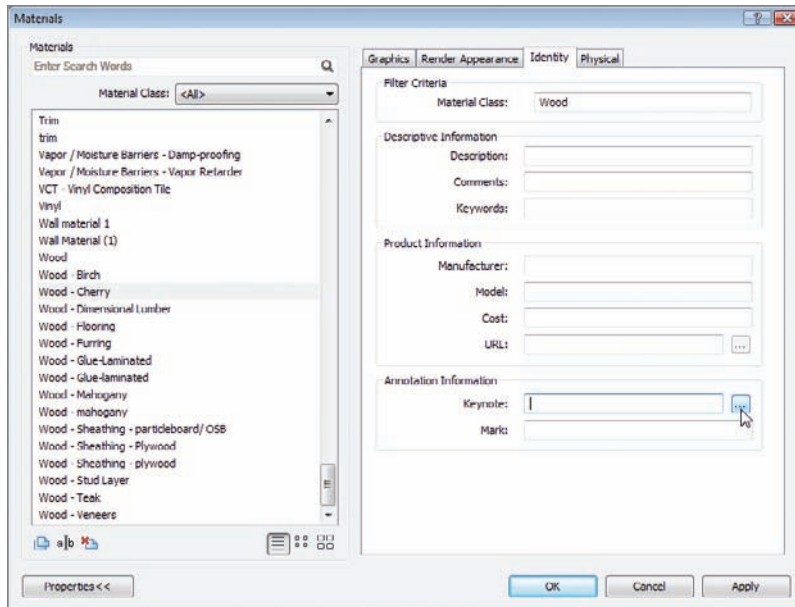

FIGURE 11.96 Browsing for a new keynote
2. In the Materials dialog box, find Wood - Cherry, as shown in Figure 11.96.
3. To the right of the dialog box, click the Identity tab, as shown in Figure 11.96.
4. At the bottom of the dialog in the Annotation information group, click the [...] button next to the Keynote field (see Figure 11.96).